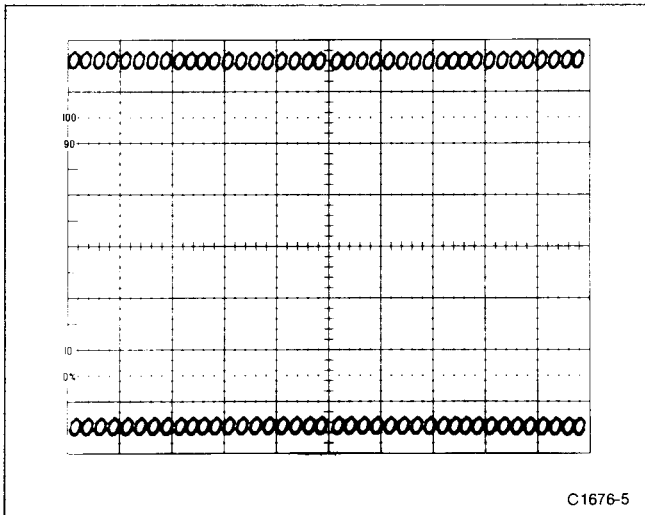

Figure 5-2. Readout display with Q3416 removed.
- e. **EXAMINE**—the crt display for two rows of zeros, 30 zeros to a row with no character overlap. The two rows of zeros should be located vertically in the middle of the top and bottom divisions of the graticule (see Fig. 5-2).